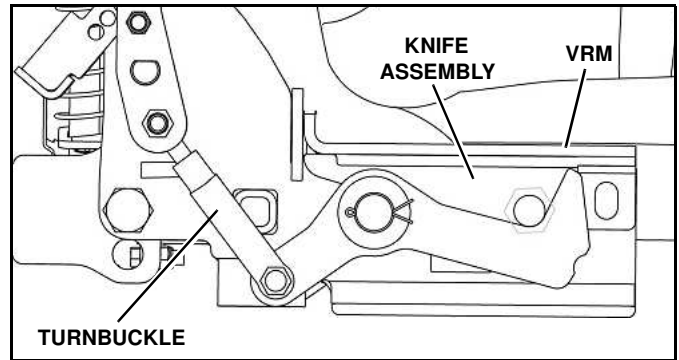

Figure 1-31
5. Once mounted, raise and lock the engagement handle. (See Figure 1-31).
*NOTE: Turnbuckles are set to an approximate length from factory. Further adjustment may be needed after installation. Over extending the turnbuckle could cause the handle to become difficult to rotate completely. Periodically the turnbuckle will need to be adjusted due to wear and tear of the VRM. (See Figure 1-31 and Figure 1-32).*